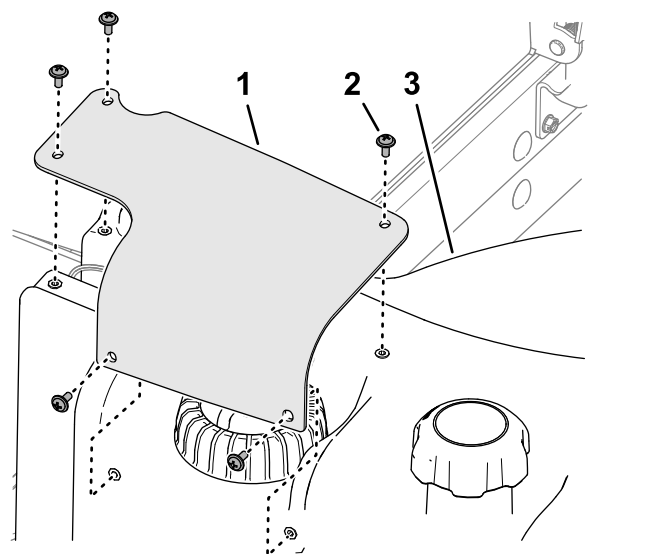

Figure 126
7. Align the holes in the fuel-sender cover with the holes in the fuel tank, and secure the cover to the tank with the 5 Phillips-head screws (Figure 126).